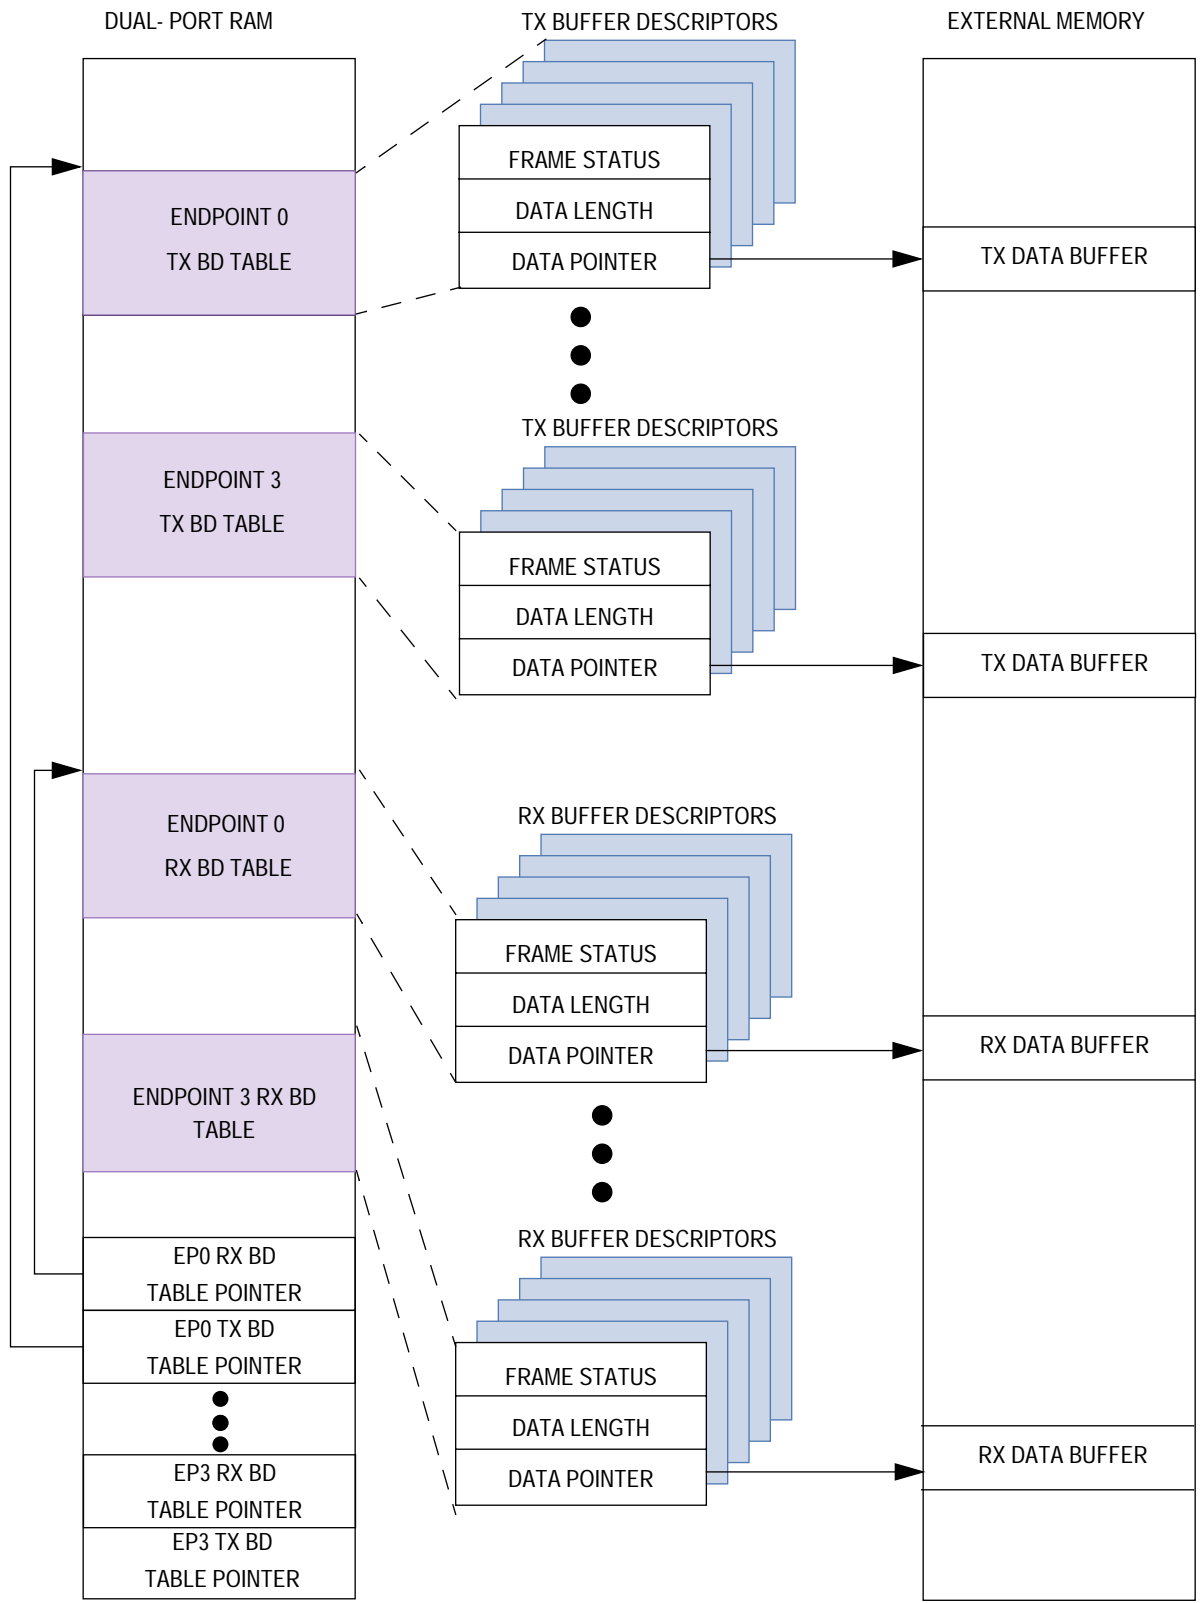

Figure 16-108. USB Buffer Descriptor Ring
16.10.8.7 USB BUFFER DESCRIPTOR RING. The data associated with the USB channel is stored in buffers that are referenced by buffer descriptors organized in buffer descriptor rings located in the dual-port RAM. These rings have the same basic configuration as those used by the serial communication controller and serial management controllers. There are four separate transmit buffer descriptor rings and four separate receive buffer descriptor rings for each endpoint, as illustrated in Figure 16-108.